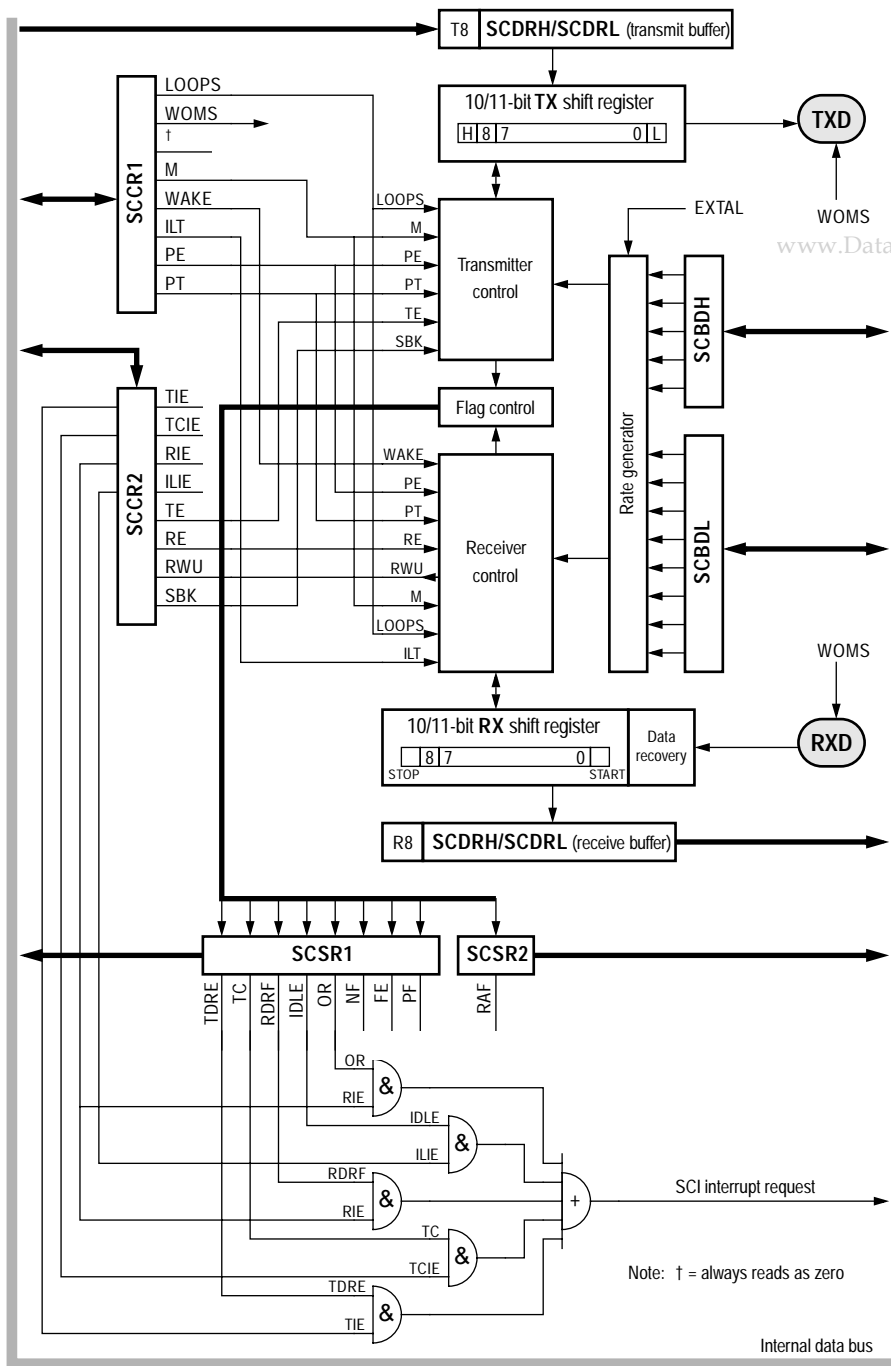

Figure 7-2 SCI block diagram
The SCI transmitter includes a parallel data register (SCDRH/SCDRL) and a serial shift register. The contents of the shift register can only be written through the parallel data register. This double buffered operation allows a character to be shifted out serially while another character is waiting in the parallel data register to be transferred into the shift register. The output of the shift register is applied to TXD as long as transmission is in progress or the transmit enable (TE) bit of serial communication control register 2 (SCCR2) is set. The block diagram, Figure 7-2, shows the transmit serial shift register and the buffer logic at the top of the figure.